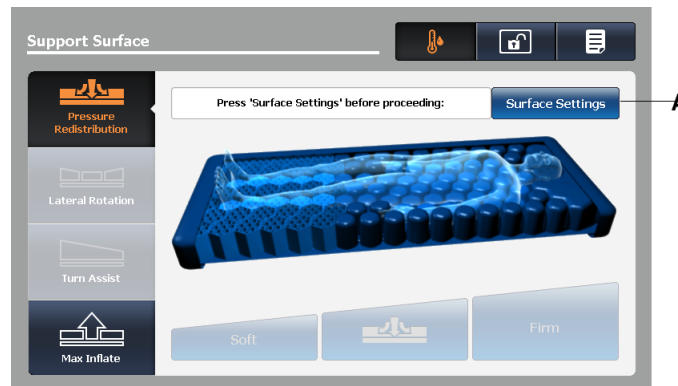

Figure 48: Pressure redistribution screen
Tap **Surface Settings** on the Pressure Redistribution screen (A) (Figure 48 on page 64).